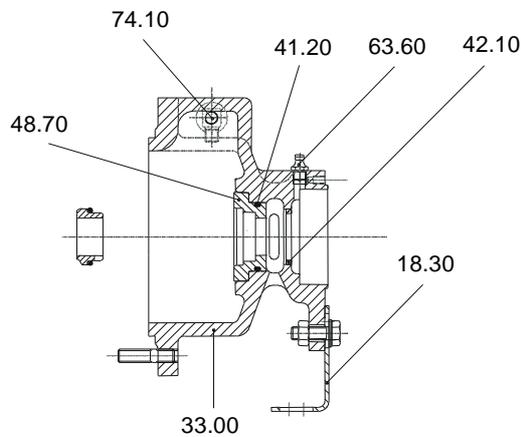

Fig. 8
13. Carefully press out the mechanical seal stationary seat from the bearing housing 33.00 (fig.8)
with support foot 18.30. The stationary seat housing has to be forced out. (fig.8)